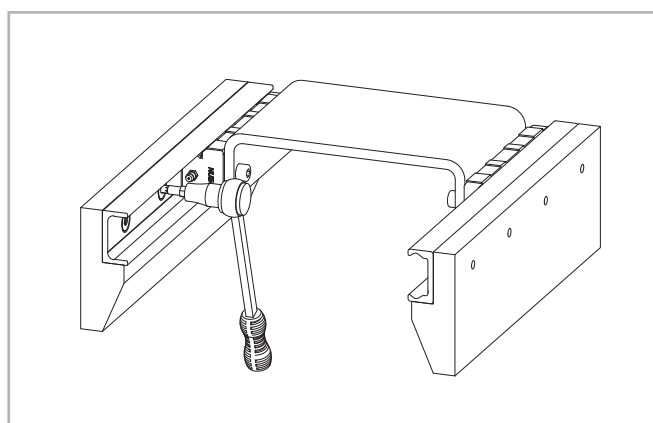

Fig. 111
(2) Install the compensating bearing rail and only tighten the fixing screws slightly.
(3) Insert the sliders in the rails and install the element to be moved, without tightening its screws.
(4) Insert the element in the center of the rails and tighten it with the correct tightening torque (see pg. CR-59, tab. 42).
(5) Tighten the center rail fixing screws to the specified torque (see fig. 111).
(6) Move the element to one end of the rail and start tightening the rest of the screws in the direction away from the slider.